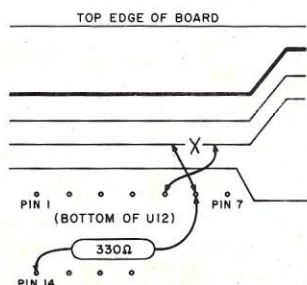

Fig. 3. Bottom of board modification.
I wrote Ithaca about this problem, but they weren't interested, so you'll have to modify your own board. Refer to Fig. 3 for details. All mods are done on the solder side of the board.
2. Cut the third trace from the top on the solder side, right near U12 where it makes an angle (see Fig. 3).